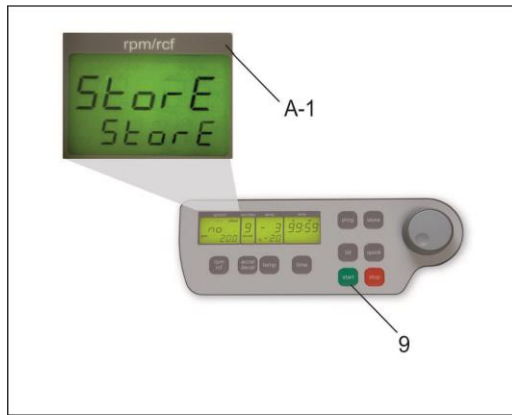

Figure 5
- All changed settings must be confirmed by the key "start" (9). A confirmation screen will appear with the word "store" in the display box "rpm/rcf"(A-1) - Only then the pre-selections are valid (see Figure 5)!